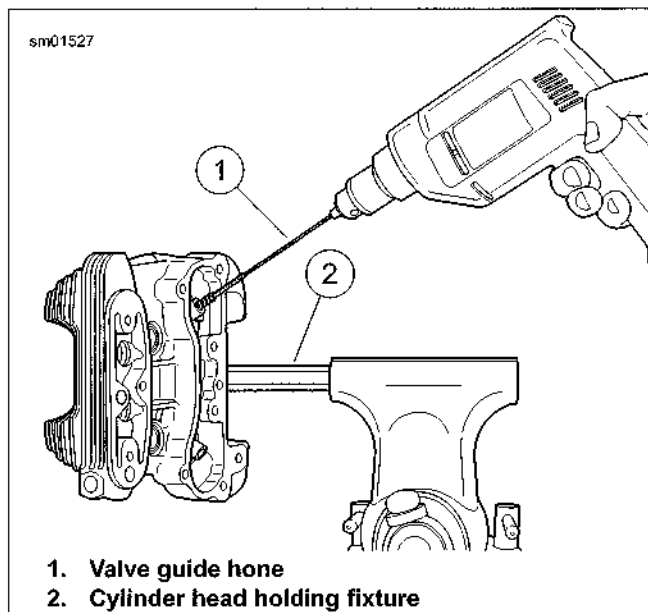

Figure 3-40. Honing Valve Guide Bore
8. See Figure 3-40. Obtain VALVE GUIDE HONE (Part No. B-45525) and REAMER LUBRICANT (Part No. HD-39964).